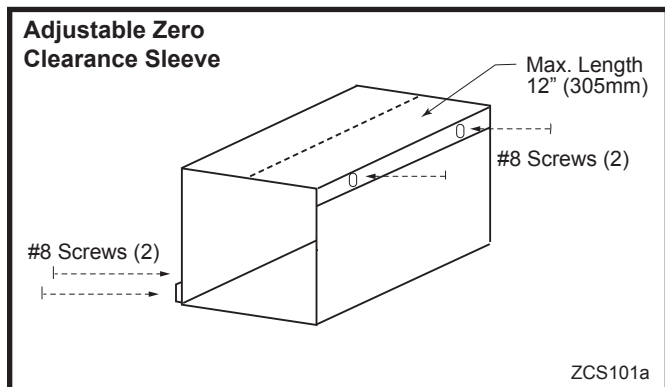
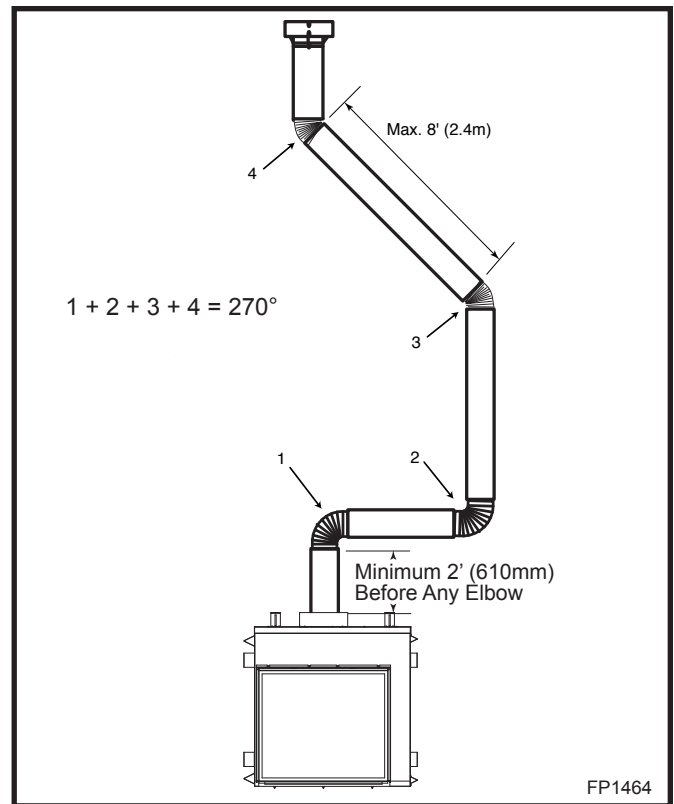

Fig. 20 Adjustable zero clearance sleeve.
Fig. 35 Typical offset application.
Measure wall thickness and cut zero clearance sleeve parts to proper length (MAXIMUM 12"/305 mm). Assemble sleeve using #8 sheet metal screws (supplied). (Fig. 20) Install firestop assembly. (Fig. 35)
- Two sets of 30° or 45° elbows offsets within these vertical installations. From 0 to a maximum of 8' (2.4 m) of vent pipe can be used between elbows. (Fig. 35)